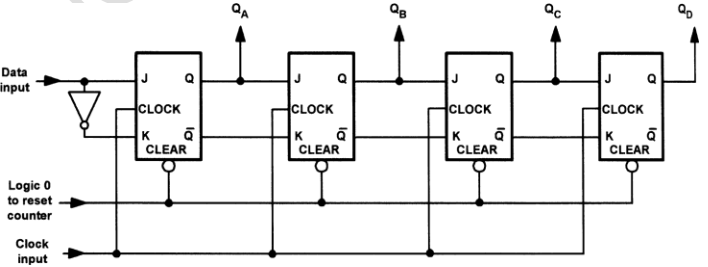
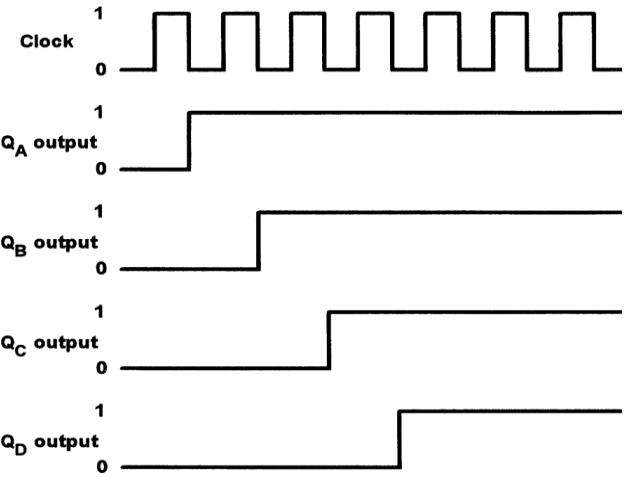

Figure 10.24 Four-stage shift register using J-K bistables
Figure 10.25 Timing diagram for the four-stage shift register shown in Fig. 10.24
- Fig. 10.24 shows the arrangement of a four- stage shift register based on J-K bistables. The timing diagram for this circuit is shown in Fig. 10.25.